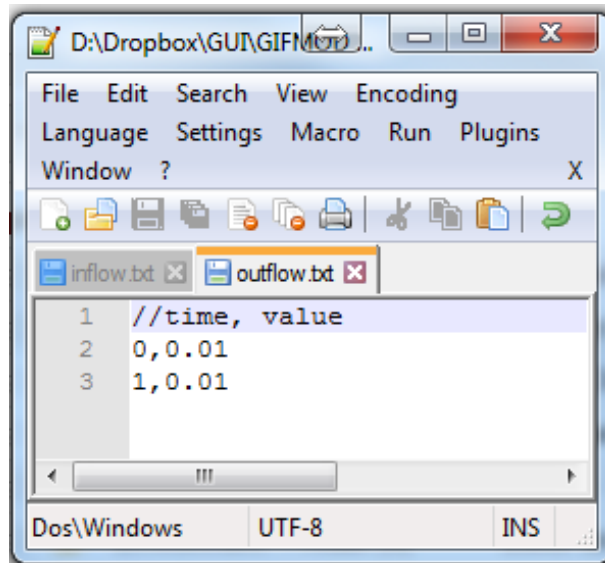

Figure 4.3: Outflow file
Pond (1) connector should look like Figure 4.3. Please note that the heading file in Figure 4.3 is ignored by the program and is only necessary for user documentation.
- Right-click on the block named **Darcy (10)** and choose **Water**